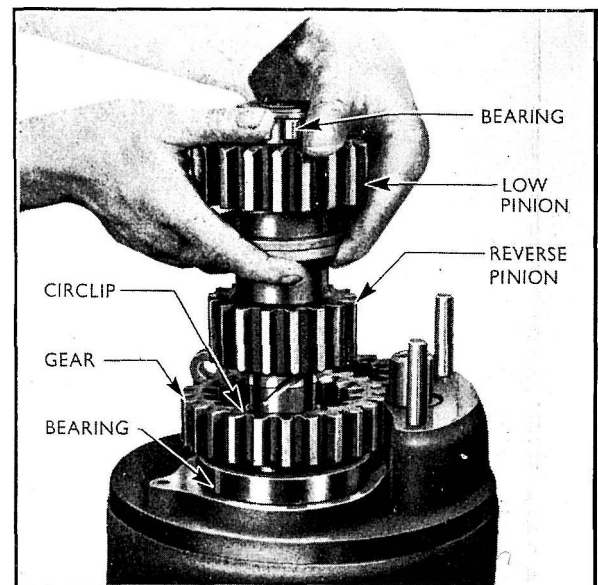

Fig. 41
19. With the selector shaft still in the innermost position, fit the main lower shaft assembly to the housing (see Fig. 41). As the assembly is replaced it may be necessary to turn the shaft in the bearing to align the involute dog teeth on the shaft with the internal gear in the primary lower shaft sliding gear.